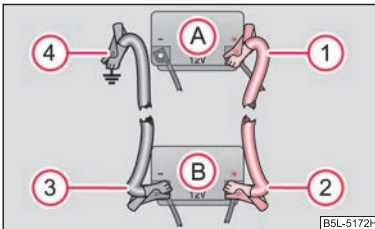

Fig. 185 Jump-starting using the battery from another vehicle: A - flat vehicle battery, B - battery providing current
- Attach one end ① to the positive terminal ⇒ fig. 185 of the discharged battery (A).
- Attach the other end ② to the positive terminal of the battery supplying the power (B).